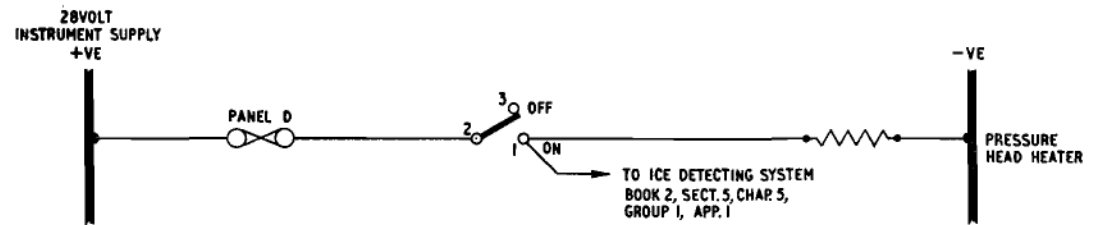

Fig. 1. Starboard pressure head heater (post Mod. 2599)
*Supply for the ice detecting system (fig. 1)*